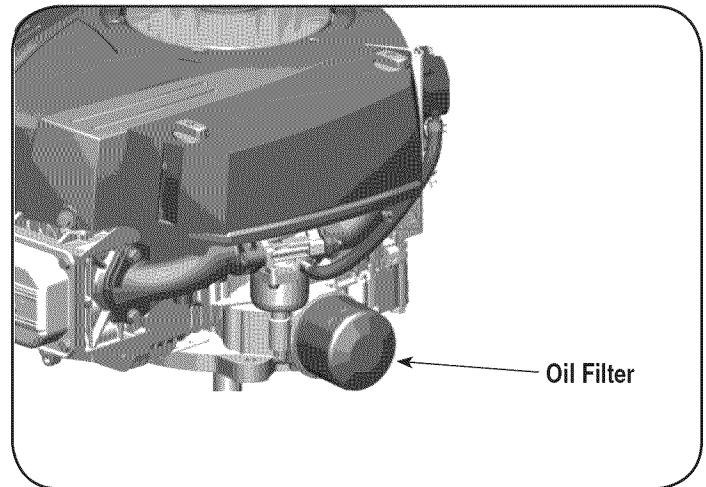

Figure 12
2. Remove the oil filter and dispose of properly. See Figure 12.